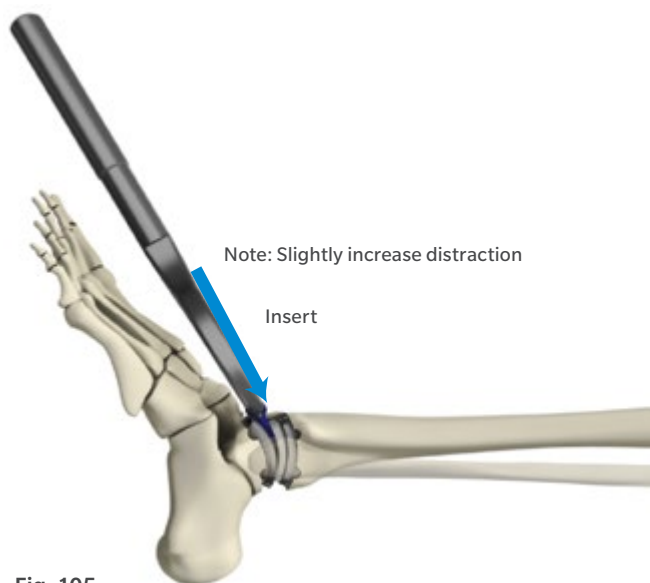

Fig. 105
- Place the Poly Revision Assembly Tool between Talar component and the replaced Poly Insert (Fig. 105).